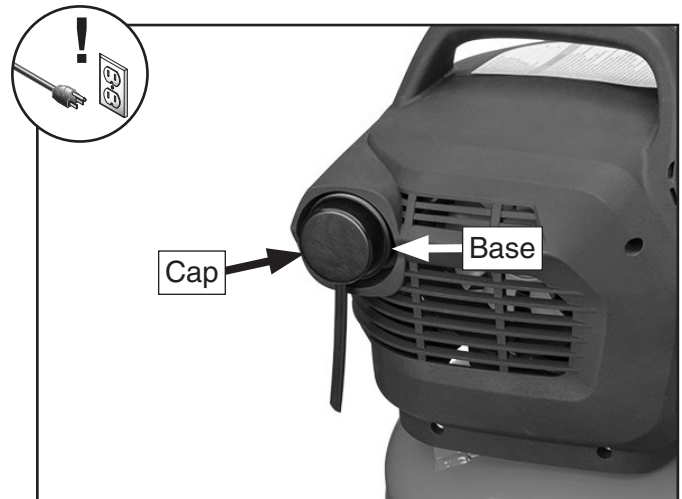

Figure 24. Air filter assembly components.
3. While holding base of filter assembly in place, turn filter cap counterclockwise to remove cap (see **Figure 24**).